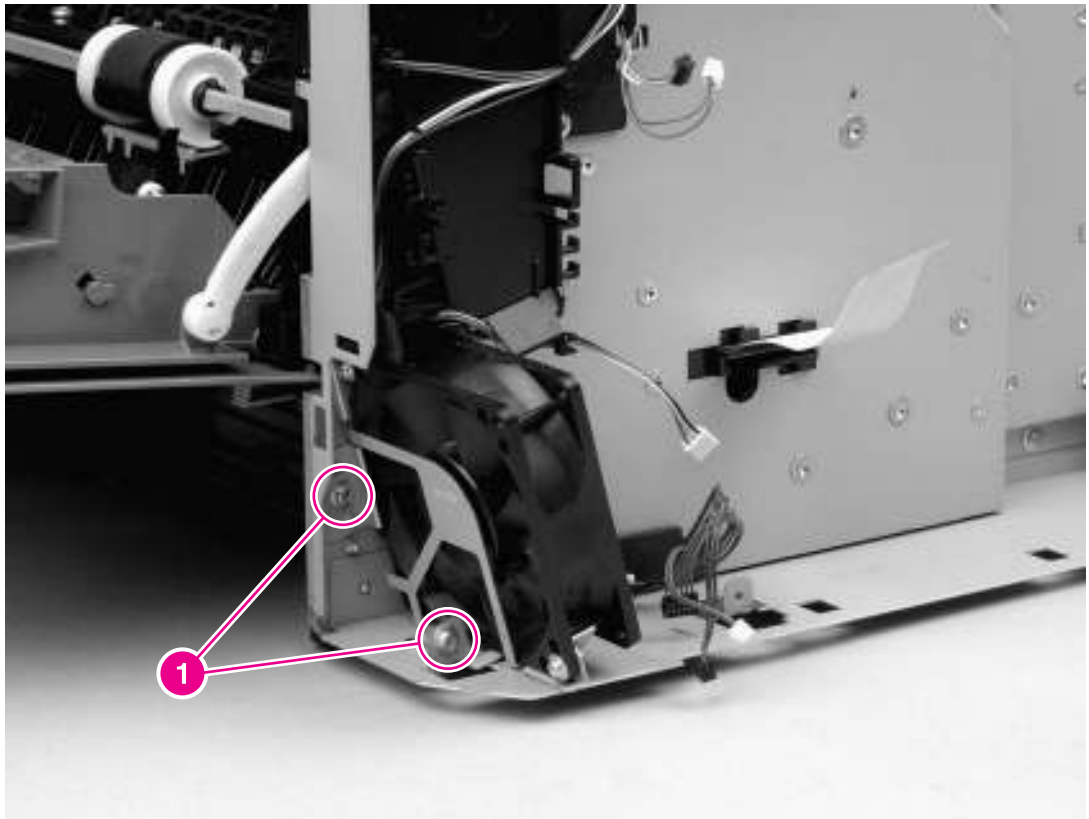

Figure 6-41 Removing the gear assembly (1 of 6)
6. Remove the right-side fan (see Figure 6-41 Removing the gear assembly \(1 of 6\) on page 115).